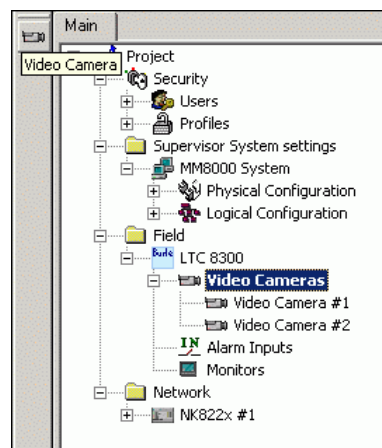

Fig 27 Adding cameras to Philips/Burle switcher
2. Select the sub-nodes cameras and add the video camera nodes (→ see Fig 27).